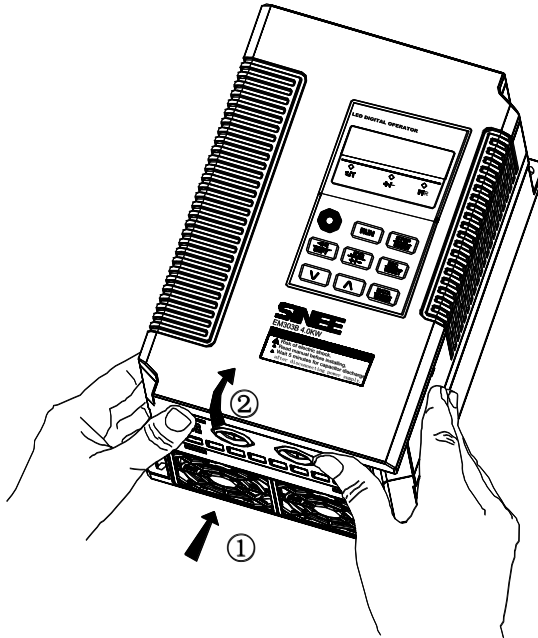

Figure2-3 Remove the Front Cover
- Remove the front cover: For EM303B-0R7~7R5, push the cover vertically from the bottom with two hands, and then lift up outwards. See Figure 2-3.